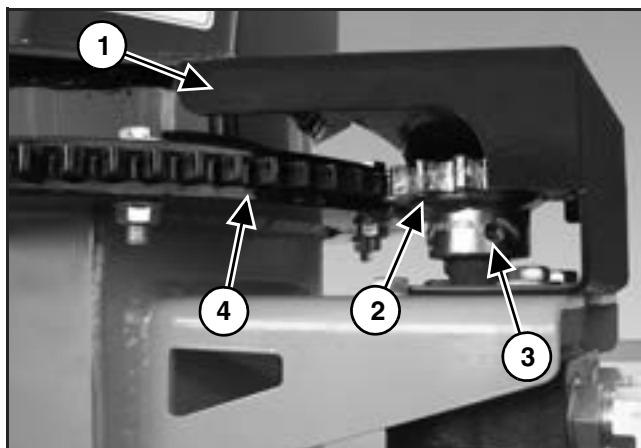

Figure 14
1. Remove chute rotate gear cover (Item 1) [Figure 14].
2. To adjust the drive gear (Item 2) alignment (height), loosen the drive gear set screws (Item 3), adjust height of drive gear, re-tighten set screws. Use loctite® on set screws. Drive gear (Item 2) should be centered on rotation gear (Item 4) [Figure 14].